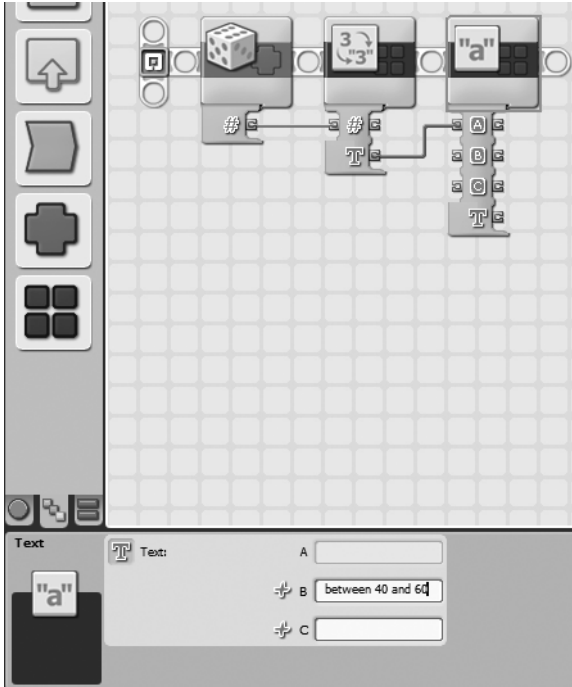

Figure 16-3. Create a text statement to be displayed on the LCD screen.
Next, I'll add a *TEXT* block to create a statement in the form of "A between 40 and 60" as shown in Figure 16-3.
In Figure 16-3, the RANDOM block number is used as input to the NUMBER TO TEXT block. The TEXT block then takes this bit of text (A) and combines it with the statement “inside range.”